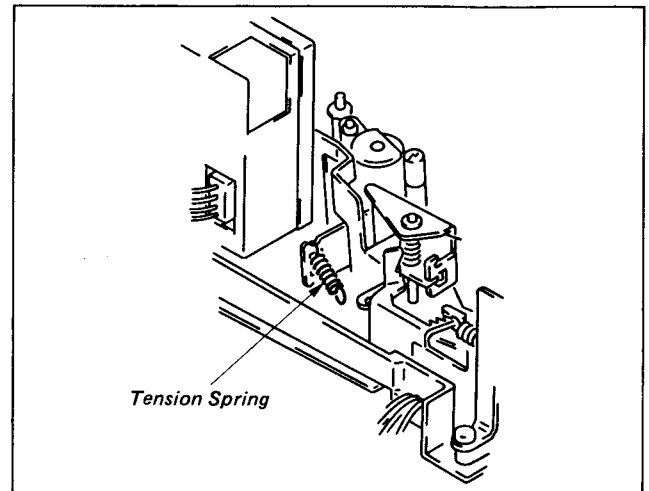

Fig. 1-58
- 4) Disengage the pinch press arm side (round hook side) of the tension spring hooked on the pinch press arm assembly. (See Fig. 1-58.)